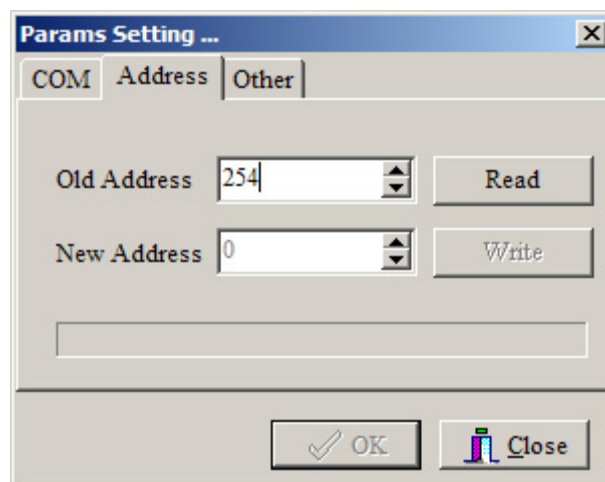

Fig. 4-5 POWER Address Set
In Fig. 4-5, enter the default address (254) of the power supply and then click "READ". If the address is read successfully, the "NEW ADDRESS" and "WRITE" function will be available. If testing fails, the new address of the power supply cannot be set. The error message as shown in Fig. 4-6 will be displayed. Check that the RS232 cable is properly connected.